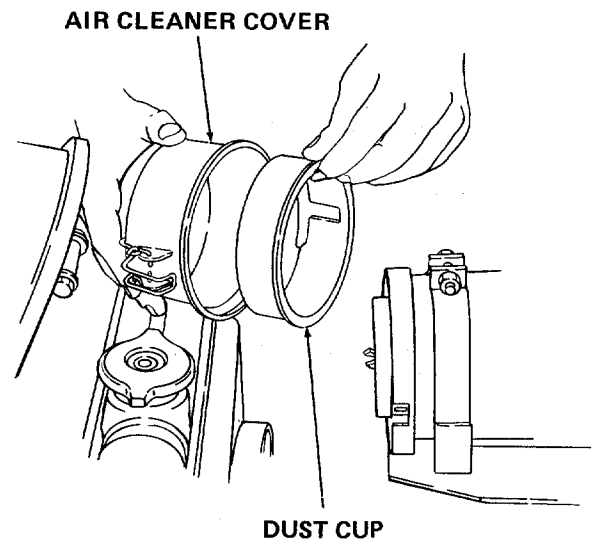

Figure 45
2. Remove and clean out the dust cup every day if the work surroundings are dusty. Never allow dust cup to become half full with dust. (See Figure 45.)